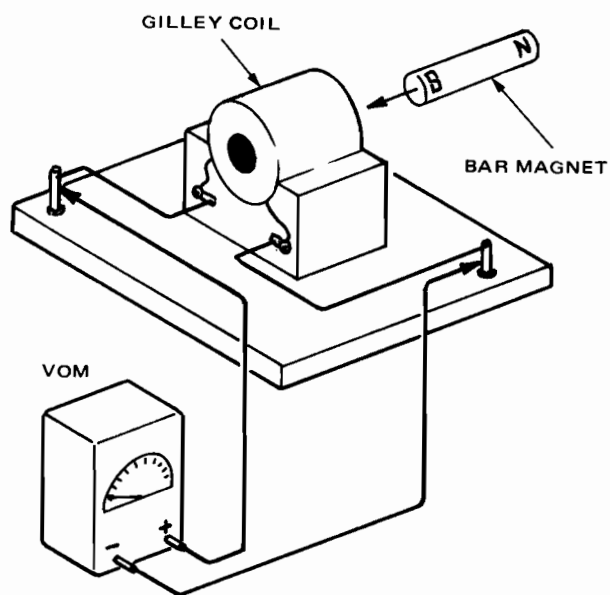

Fig. 7-1-1
2. Prepare VOM to measure an ac current of approximately 0.5 mA. Connect meter to coil as indicated in Fig. 7-1-1.
13. Prepare VOM to measure a low voltage dc. Connect it to coil as indicated in Fig. 7-1-1.